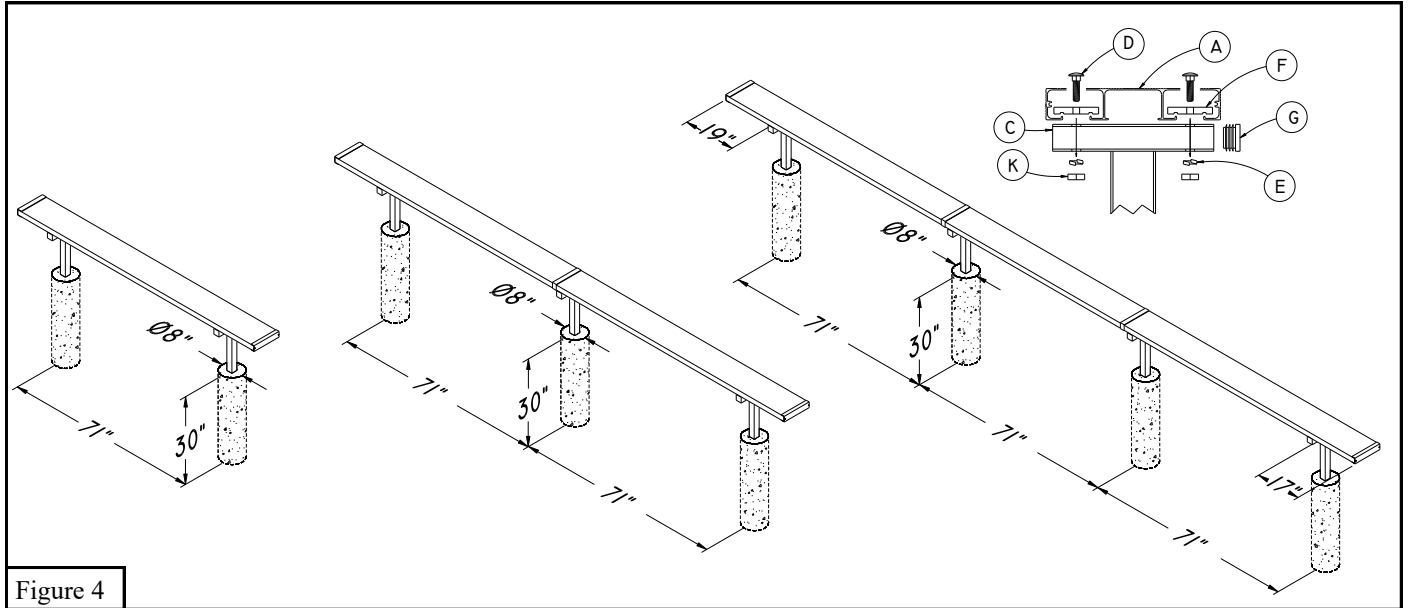

Figure 4
7. Attach *Leg Assemblies (C)* to the *Seat Plank Assemblies* from above using $3/8'' \times 3''$ *Carriage Bolts (D)*, $3/8''$ *Lock Washers (E)*, $3/8''$ *Hex Nuts (K)* and *Bench Clamps (F)*. Use *Seat Connector Tube (L)* on the center legs in place of *Bench Clamps (F)*. Legs should be spaced 71'' center to center with equal plank lengths extending beyond the legs on 7 1/2' models. On 15' and 21' models the planks will extend beyond the legs more on one end than the other due to the plank connection hardware. See Figure 4.
8. Insert the *Plastic Tube Plugs (G)* into *Leg Assemblies (C)*. See Figure 4.
10. Locate and dig 8'' diameter holes 30'' deep and 71'' apart center to center. See Figure 4.
The center of the holes should be a minimum of 18'' from any wall, fence, or permanent structure. See Figure 4.